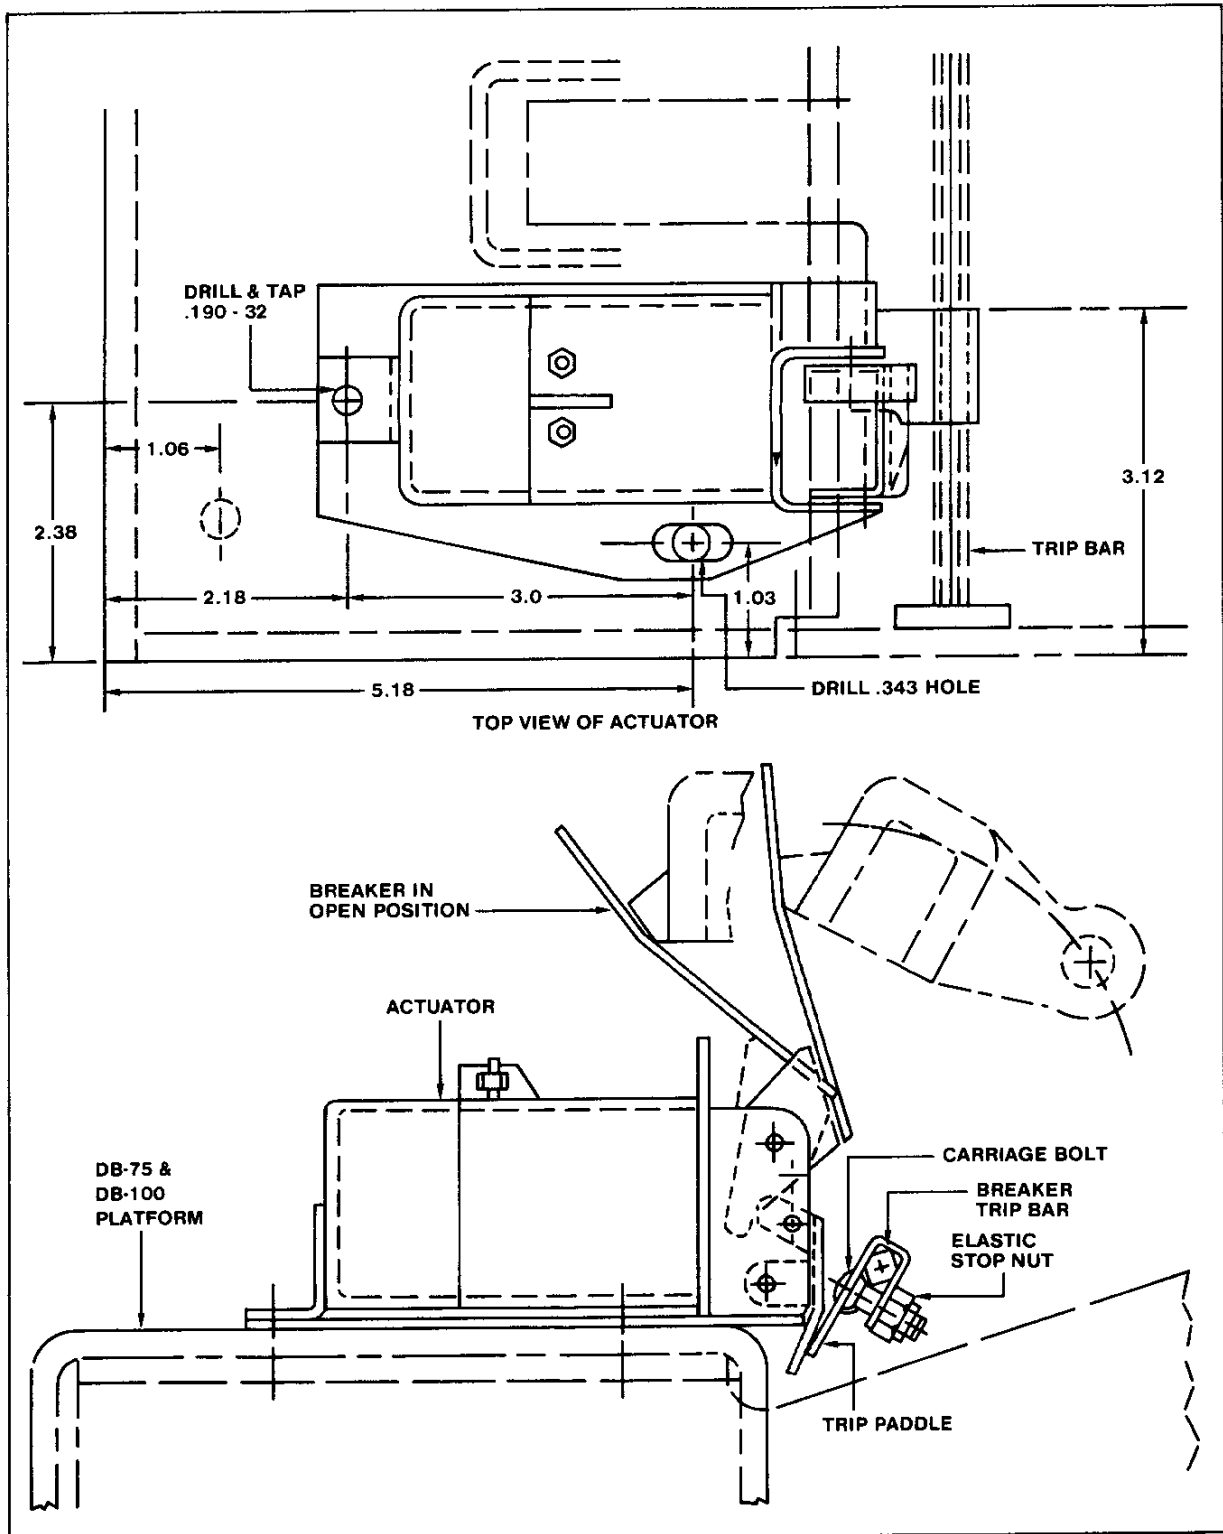

Fig. 26 Positioning of Actuator Relative to Trip Bar DB-75/100
- Position and assemble trip paddle on breaker trip bar using .25-20 x .75 carriage bolt, trip bar finger and elastic nut. Left edge of paddle should be 3.12" from side of platform, Figs. 26 and 27.